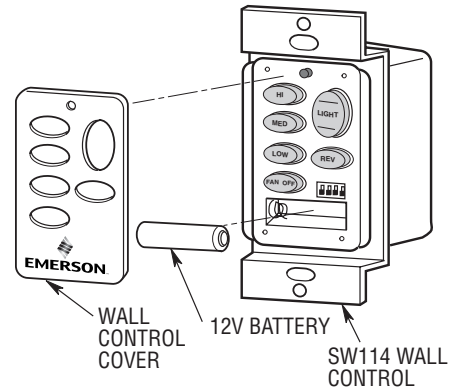

Figure 20
1. Install the 12V battery (supplied) into the wall control (Figure 20).
2. The SW114 wall control is supplied with a white, ivory or almond color cover. Choose the style that best suits your needs and snap the cover onto the wall control (Figure 20).